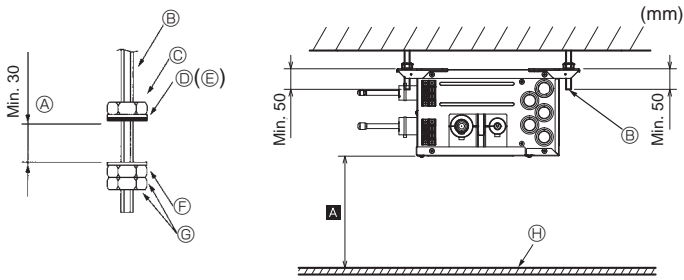

Fig. 6-1
- (2) Fit the washers (①, ②) and nuts (procure locally) to the suspension bolts. (Fig. 6-1)
- (3) Hang the unit on the suspension bolts.
- (4) Fully tighten the nuts (check ceiling height).
- (5) Use a level to adjust the branch box to the horizontal.
- ① When unit is hung and nuts tightened
② Suspension bolt
③ Nut (procure locally)
④ Washer (with cushion) ①
⑤ Ensure that cushion faces downwards
⑥ Washer (without cushion) ②
⑦ Nut (procure locally)